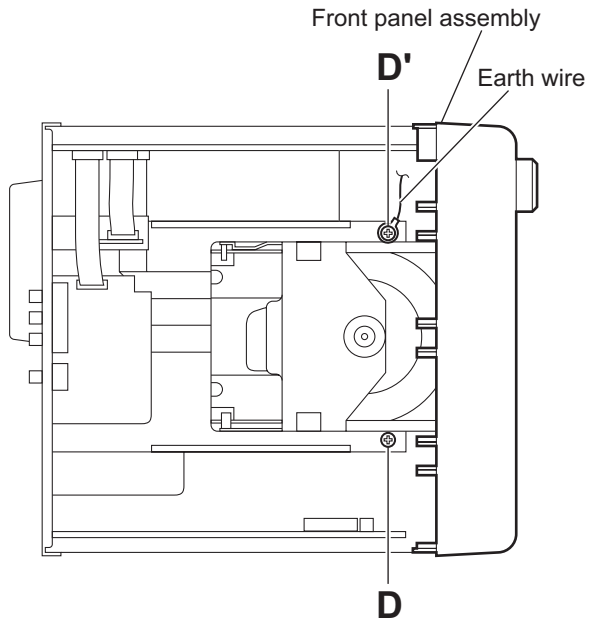

Fig.6
(8) From the top side of the main body, remove the screw **D** and screw **D'** attach the front panel assembly to the main body. (See Fig.6.)
When attaching the screw **D'**, attach the earth wire with it. (See Fig.6.)